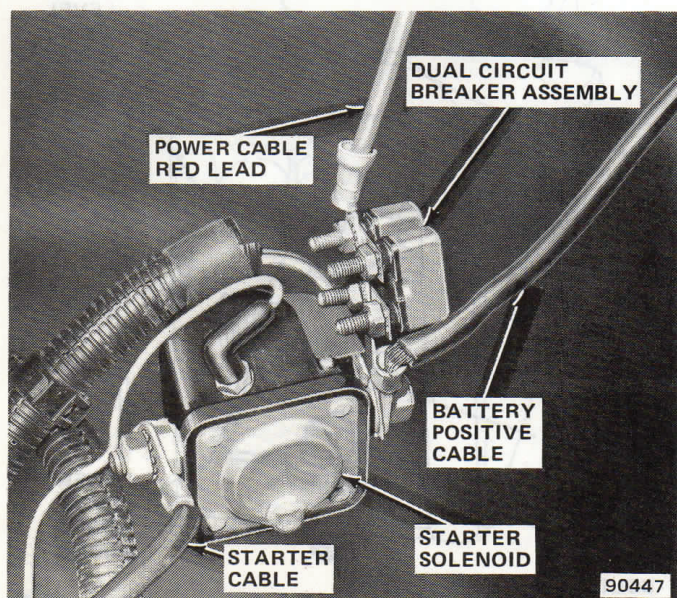

Fig. 5-70 Dual Circuit Breaker Installation
(7) Install dual circuit breaker assembly on starter solenoid (fig. 5-70). Remove nut attaching battery positive cable to solenoid terminal. Remove battery cable, mount circuit breaker assembly on solenoid terminal and install cable and nut on terminal. Tighten nut securely but do not overtighten.
(8) Attach power cable red lead to dual circuit breaker (fig. 5-70).
(9) Connect battery negative cable at battery.